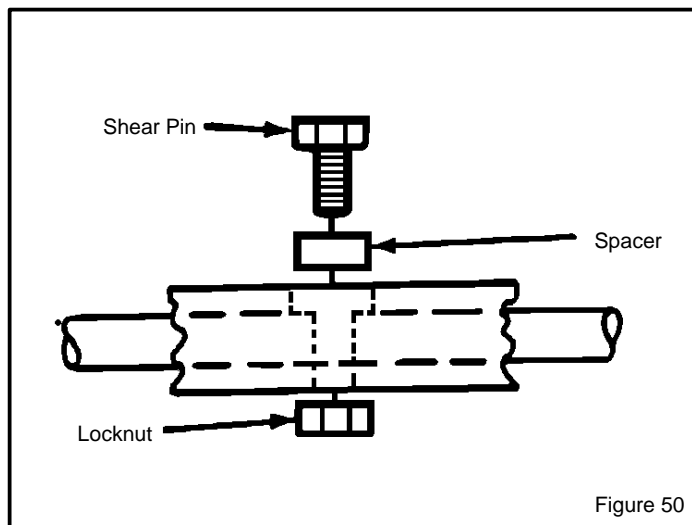

Figure 50
3. Align the hole in the auger with the hole in the auger shaft. Install new shear bolt, spacer and locknut found in the toolbox located on the belt cover (See Figure 50).